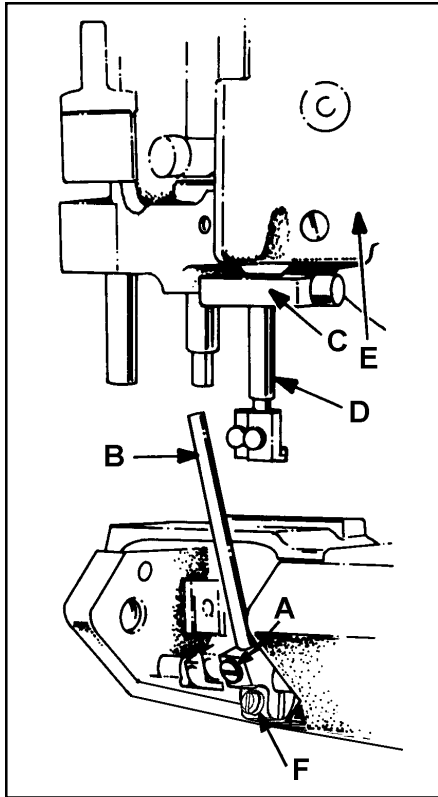
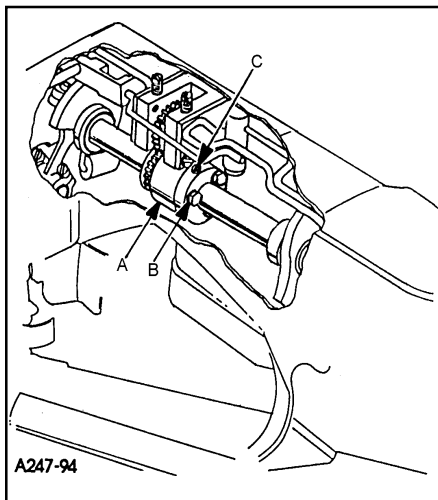

FIG. 2
FIG. 3
To synchronize the machine, remove the needles, presser foot, throat plate, feed dogs and upper feed roller mechanism. Rotate handwheel in the operating direction until the needle bar is at the bottom of its stroke and just begins its upward travel. Loosen screw (A, Fig. 2) and remove the looper for the left hand needle from the looper holder. Insert a straight steel rod (B) $5/32$ " (3.9mm) or $11/64$ " (4.3mm) diameter by $2-1/2$ " (63.5mm) long into looper holder and retighten screw (A). Rotate the handwheel until the rod (B) is at the extreme left and reinstall the throat plate. Loosen screw (F) in looper holder and move the holder left or right until the right side of the rod is approximately $5/32$ " (4.0mm) from the left edge of the throat plate, tighten screw (F). Turn the handwheel in the operating direction, with needle bar rising until rod (B) comes in contact with the edge of the throat plate. At this point, clamp Union Special timing gauge No. TT147 (C) around the needle bar (D), flush against the underside of the machine casting (E). Rotate handwheel in the opposite direction until either the gauge contacts the machine casting on the up stroke of the needle bar or the rod contacts the edge of the throat plate. Maximum allowable clearance between gauge and casting or rod and throat plate is .005" (0.1mm)
Both ends of the adjustable split coupling are secured to the crankshaft and main shaft by spot screws and set screws. On the main shaft end of the coupling (A, Fig. 3) three screws (B) thread horizontally through the coupling. The holes in the main shaft end of the coupling are larger than the diameter of the screws, permitting several degrees of rotation in either direction to properly synchronize the needle and looper. Loosen the three horizontal clamp screws (B, Fig. 3). With rod (B, Fig. 2) at its farthest position to the left, snug the uppermost horizontal clamp screw enough to hold coupling (A, Fig. 3) in position. If the handwheel is turned in reverse of operating direction and gauge (C, Fig. 2) on needle bar (D) contacts the machine casting (E) before rod (B) contacts the edge of the throat plate, loosen horizontal clamp screw (B, Fig. 3) which was snug, while holding the coupling in place with an Allen wrench in set screw (C). Rotate the handwheel slightly in reverse of operating direction, snug the uppermost horizontal clamp screw (B), recheck synchronization. If the handwheel is turned in reverse of operating direction and the rod contacts the edge of the throat plate before the clamp gauge contacts the machine casting, adjust as before, except turn the handwheel slightly in the operating direction. Use shim stock to insure no more than .005" (0.1mm) exists between gauge and casting or between rod and throat plate, in both the operating and reverse directions of the handwheel. When this setting has been made, tighten the three horizontal clamp screws (B, Fig. 3) securely, and recheck both clearance points with .005" (0.1mm) shim gauge to assure no slippage occurred while tightening the screws.